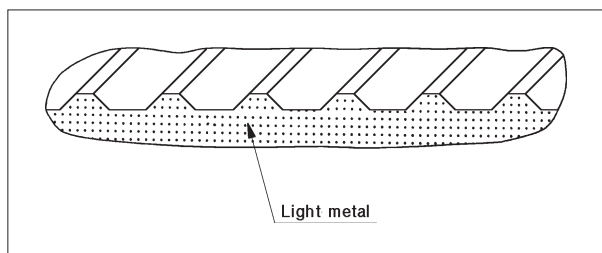

Fig. 17.
**Condition:** In some areas there is no overlay in the slots, see fig. 17.